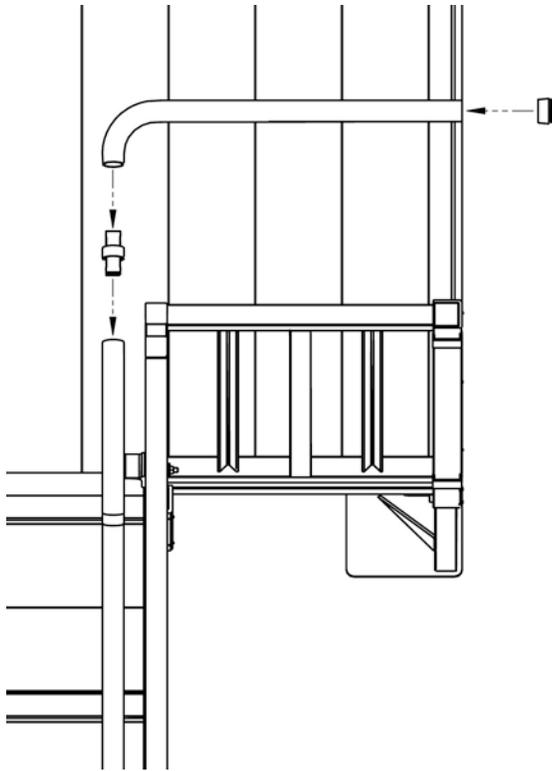

FIG. 23
- 5.4 For situations where the step guard is at 90° to a top platform with the steps parallel to a wall, refer to steps 5.4.1 through 5.4.10 for returning the step handrail to a wall (FIG. 23 and 24).